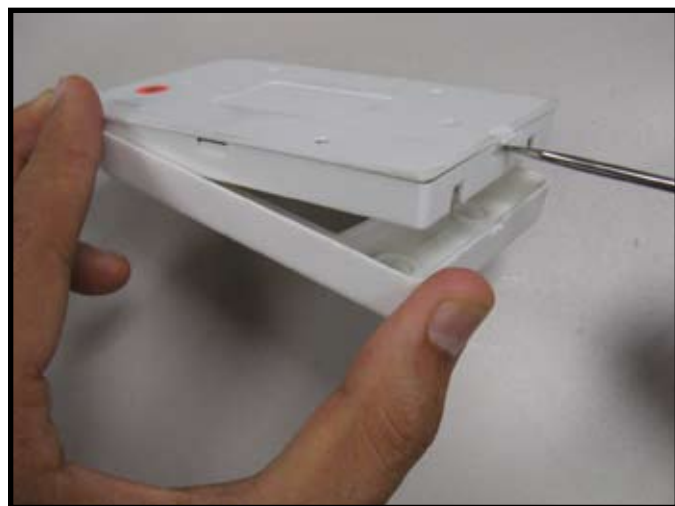

Figure 1. Wall Switch Disassembly
2. Insert small flat screwdriver in the tab located in the bottom of the wall switch and twist the screwdriver to disassemble the wall switch. See Figure 1.